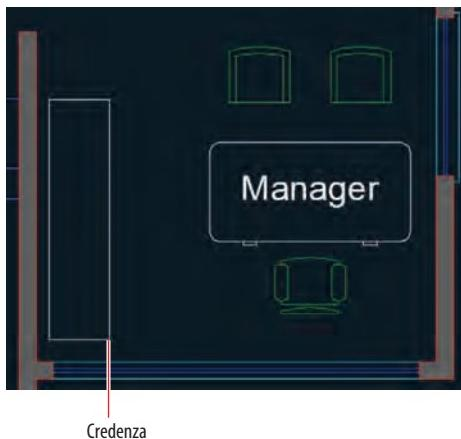

FIGURE 6.5 Drawing furniture on layer 0
2. Select the Home tab on the ribbon. Click the Rectangle tool on the Draw panel, and click a point a few inches (no need to measure) from the lower-left corner of the room. Type @18,72 (or @45,180 for metric) and press Enter to create a credenza in the manager’s office (see Figure 6.5).